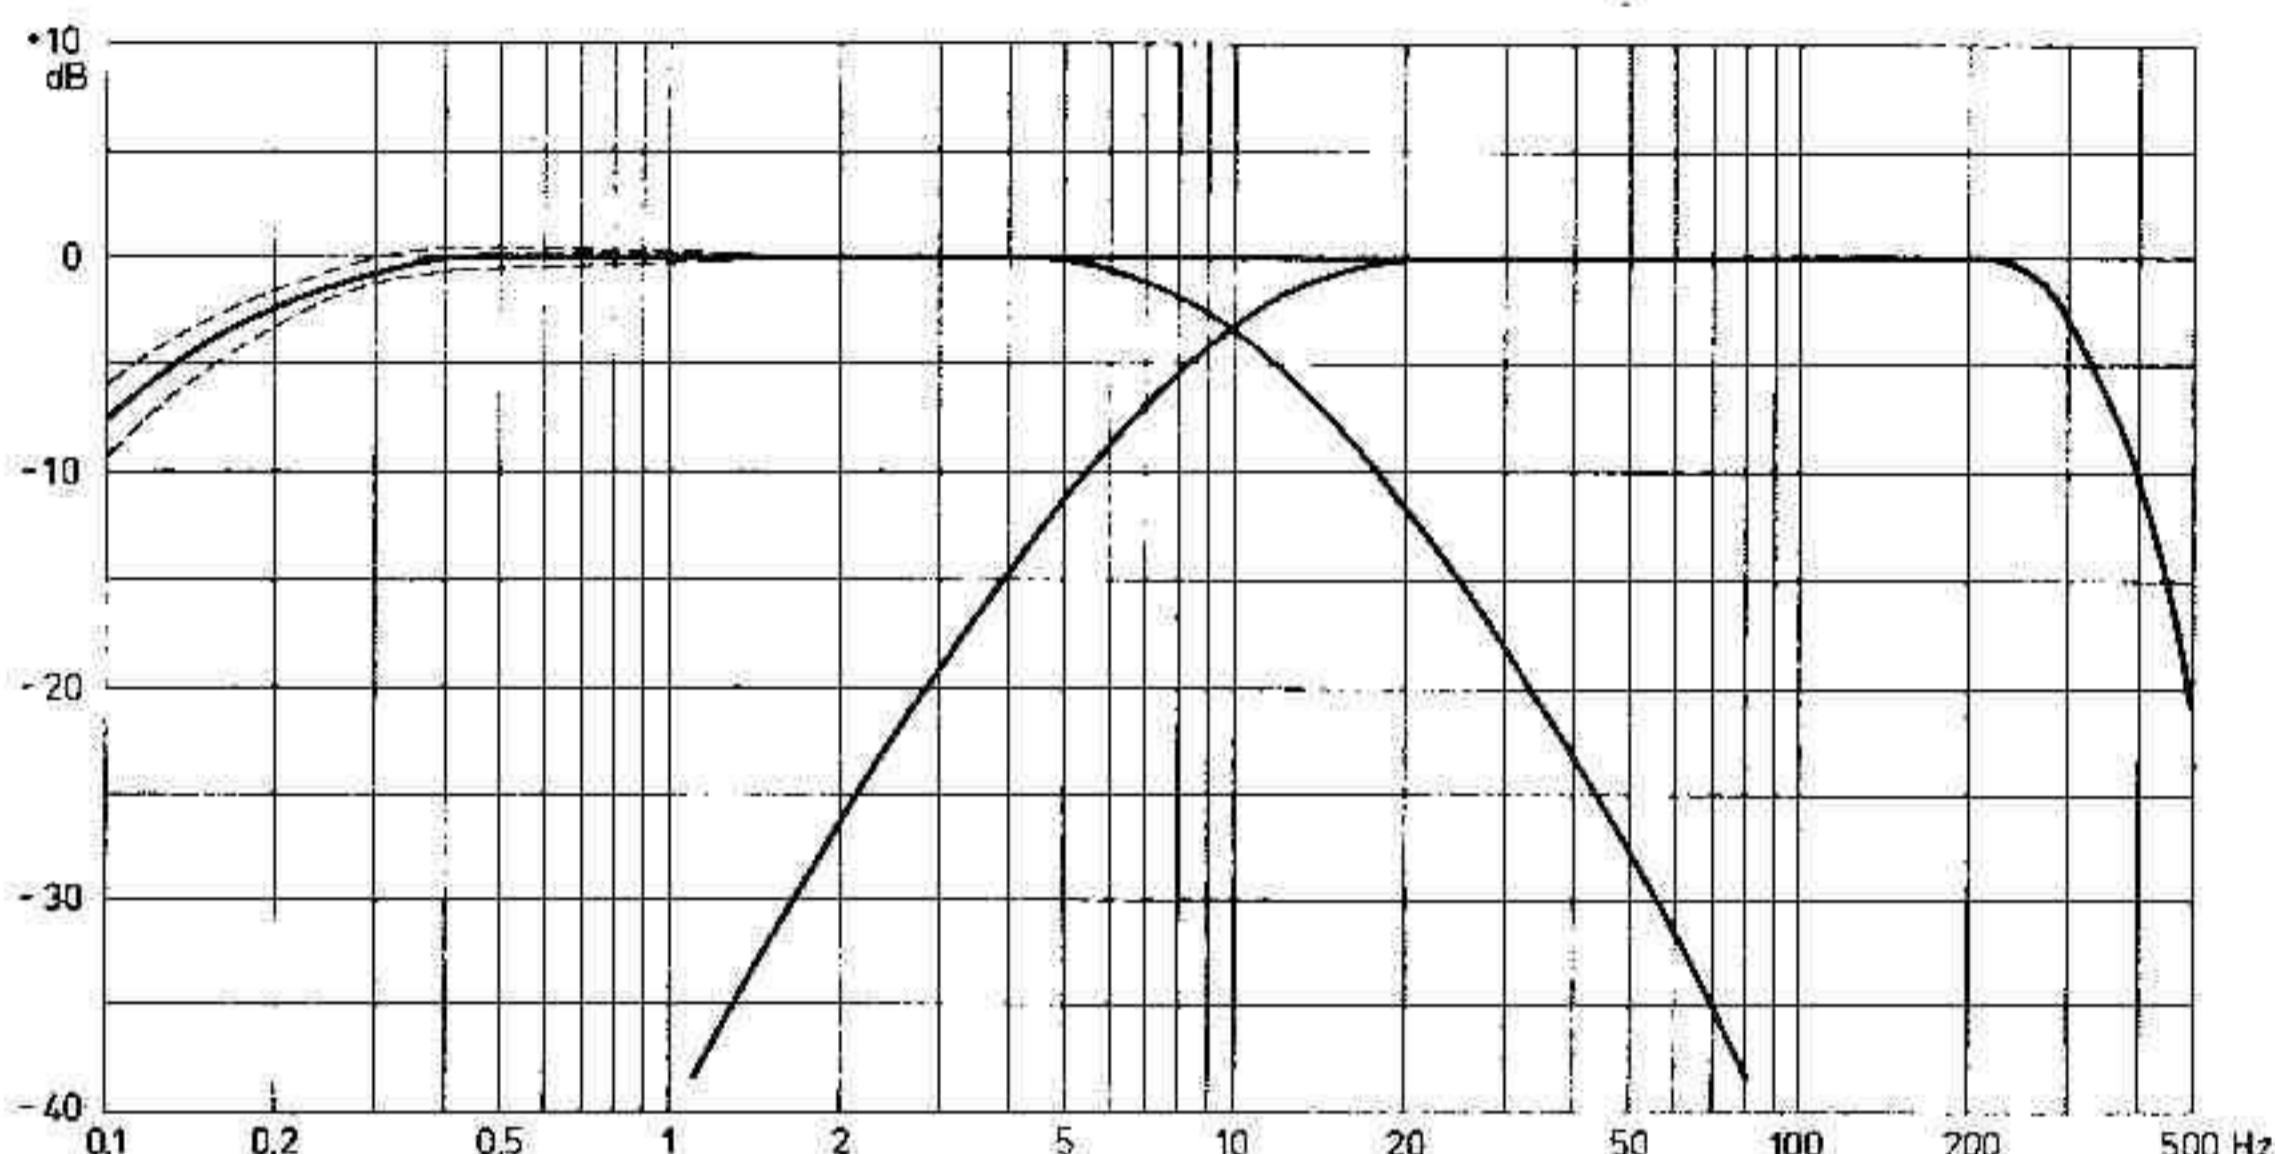

Fig. 7. Wow and flutter filter, linear (WOW, FLUTTER and W+F).
The frequency spectrum can be divided into wow and flutter depressing the **WOW** and **FLUTTER** buttons of the filter function switch (17). The crossover frequency is 10 Hz. Wow thus is defined as the frequencies below 10 Hz; and flutter is defined as the frequencies above 10 Hz (Fig. 7). The weighted filter is switched off by setting the filter function switch (17) to the **LIN** position, providing linear measurement of the frequency spectrum.
3. The DC WOW/FLUTTER output voltage is analogous to the FLUTTER meter (6) deflection and identical to the rectified signal after the meter circuit (Fig. 7). The output voltage is equal to 1 V DC at full scale.